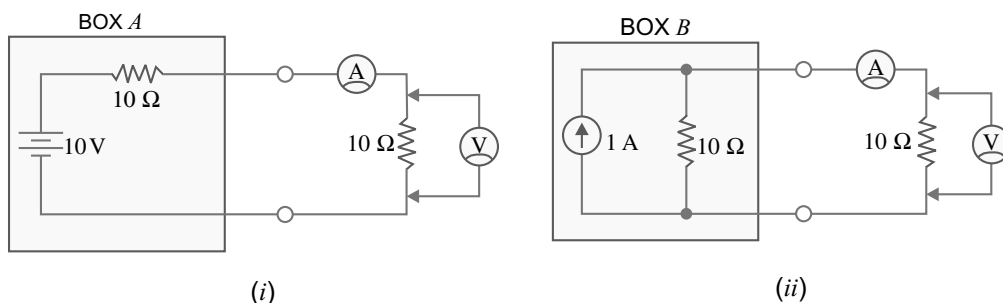

Fig. 1.53
**Ans.** (i) Since there is no way to see inside the boxes, a load is connected to each to determine what it contains. Suppose we connect a load of  $10\ \Omega$  to each box as shown in Fig. 1.53. Voltmeter and ammeter are also connected to obtain data. In case of box *A*, the  $10\ \Omega$  load resistor acts in series with  $10\ \Omega$  internal resistance so that total resistance is  $20\ \Omega$ .